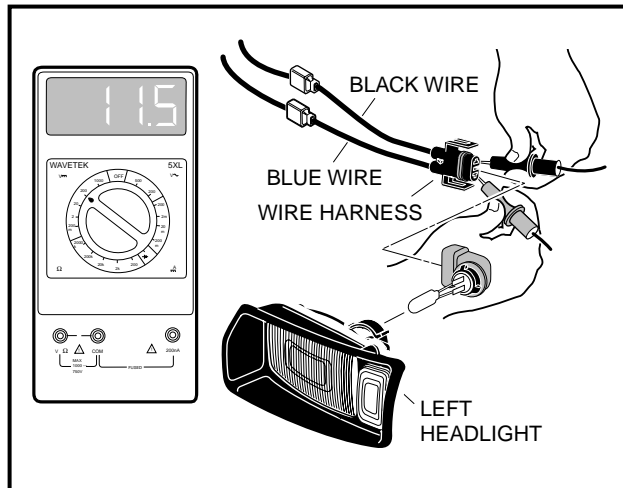

Figure 11-49 Check Voltage to Headlight Socket
3. Remove the wiring harness from the headlight (**Figure 11-49, Page 11-44**).